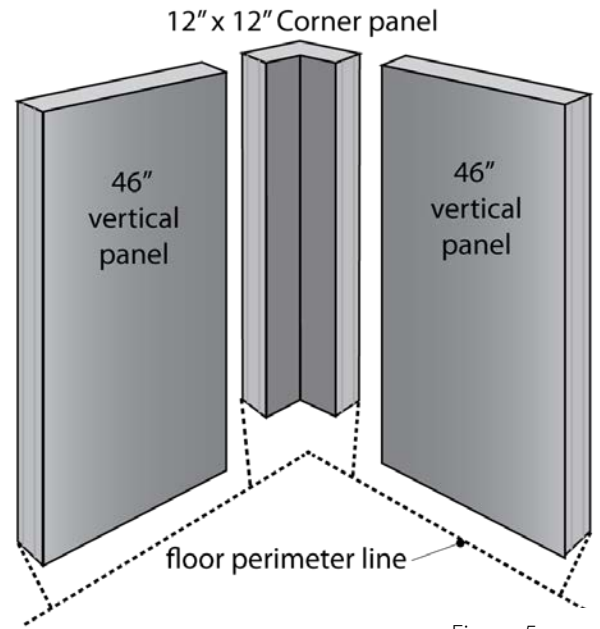

Figure 5
- A. After you have checked that the building floor is level, use a transient or builders level to find the highest point on the perimeter. Position the first 12 x 12 corner to be level with the high point. Begin at corner and align panels at the top. See Figure 5.
- C. Place your hand near the bend in the wrench as shown in Figure 5 and use a lift-up motion. This will produce a clamping action on the hex rod. While doing this, pull forward until the rod is free of the panel. The locking arm will then drop free.